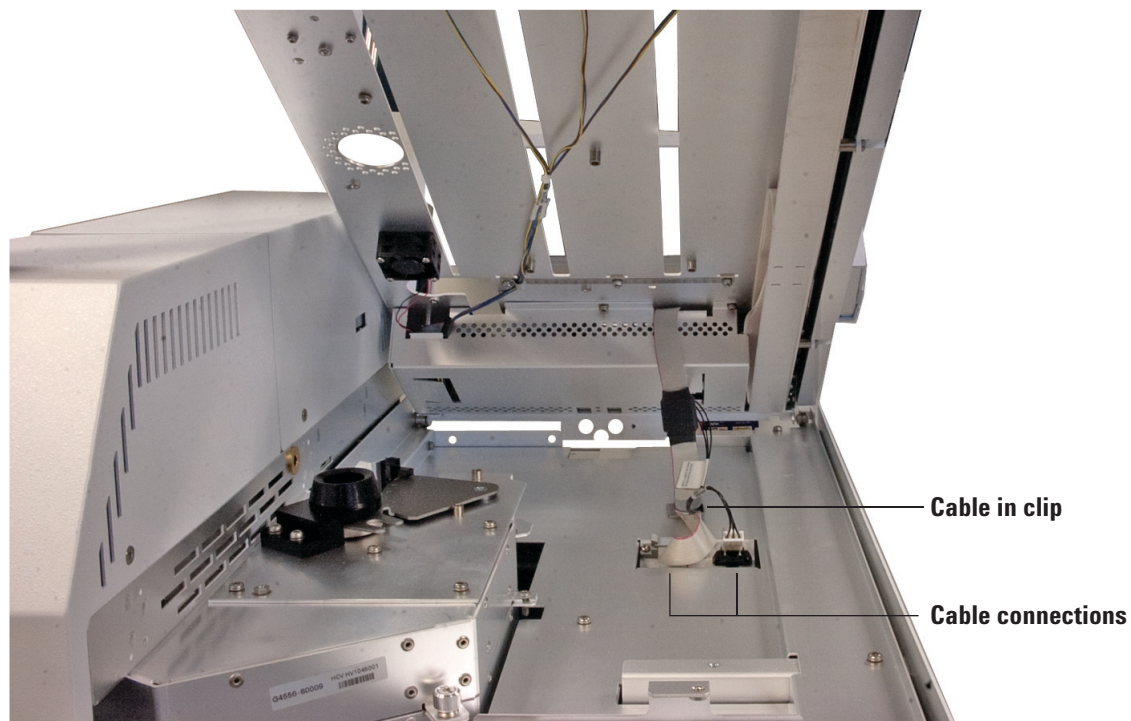

Figure 3 Connecting and routing the cables
- 3** Connect the tray control cables to the connectors in the chassis. See Figure 3. Route the control cables through the plastic clip on the chassis.